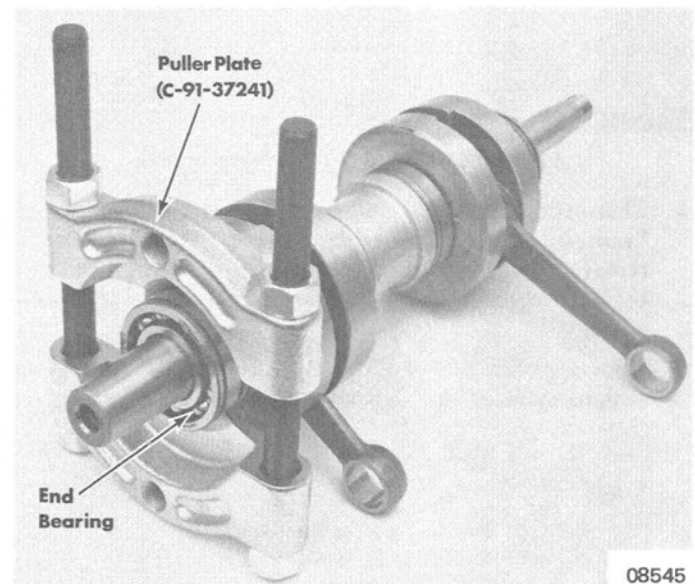

Figure 16. End Bearing Removal
1. Install Puller Plate (C-91-37241) between inner and outer end bearings on PTO side of crankshaft. (Figure 16)